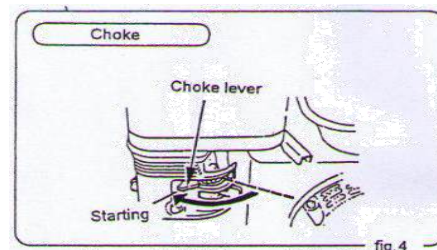

fig. 4
2. When cold or somehow starting is difficult, turn choke lever to START position. This is not necessary when engine is warm. (Fig.4)